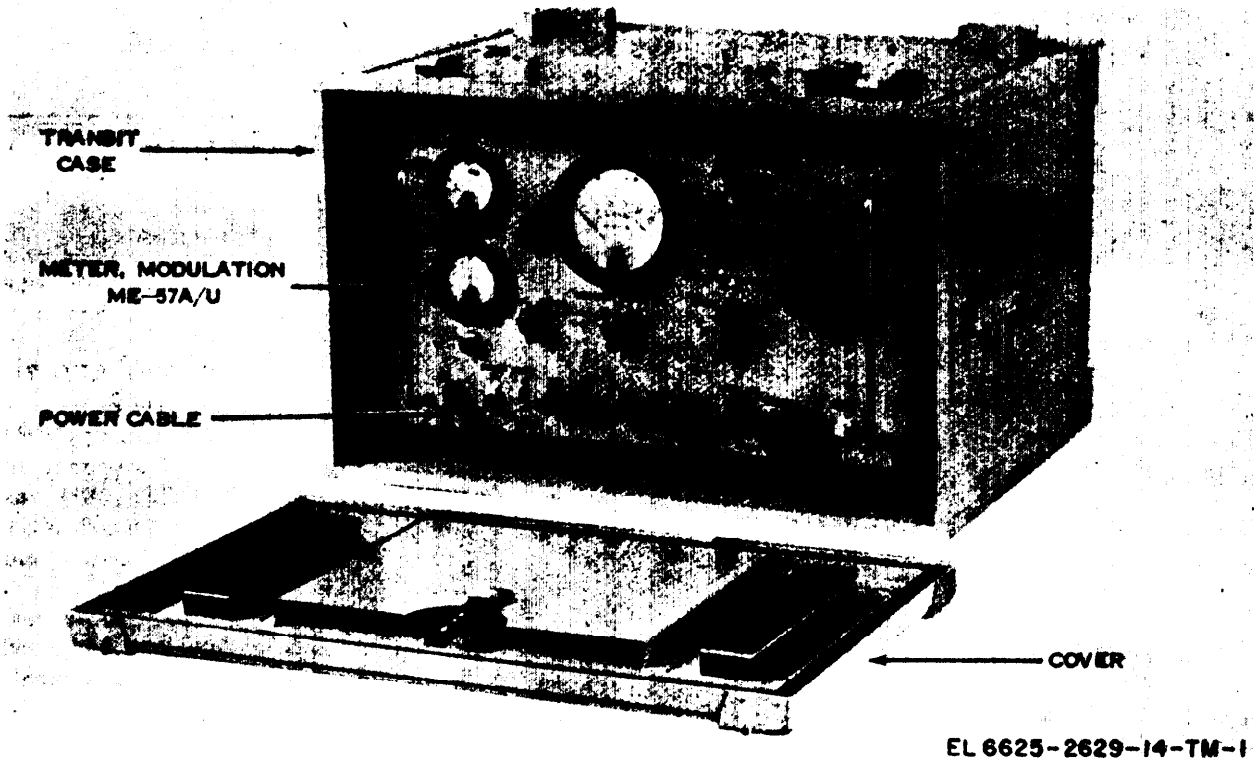

Figure 1-1. Meter, Modulation ME-57A/U
a. This manual describes Meter, Modulation ME-57A/U (fig. 1-1) and provides instructions for operation, organizational maintenance, direct support (DS) maintenance, and general support (GS) maintenance. Instructions are provided for the operator and the organizational repairman for installation, operation, preventive maintenance and replacement of parts available at organizational maintenance. Circuit functioning is included for general support maintenance, together with instructions appropriate to that category of maintenance for troubleshooting, testing, adjusting, aligning and repairing the equipment and replacing maintenance parts. There are no maintenance functions for the ME-57A/U assigned to the direct support level.